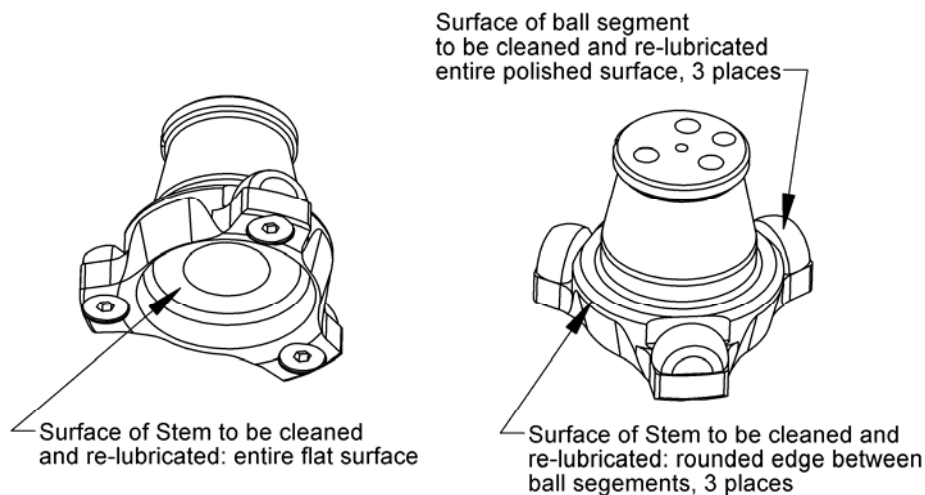

Figure 5.5—Cleaning and Re-lubricating the Stem
4. Remove the Stem assembly and clean the lubricant from the working surfaces of the ball segments and the Stem. Set the Stem assembly aside for later re-use (see Figure 5.5).
2. Apply a generous coat of Moly Grease to each of the three (3) ball segments on the Stem Assembly and to the rounded edge of the shoulders between the ball segments. Apply a layer of Moly Grease to the flat underneath surface of the Stem (see Figure 5.5).